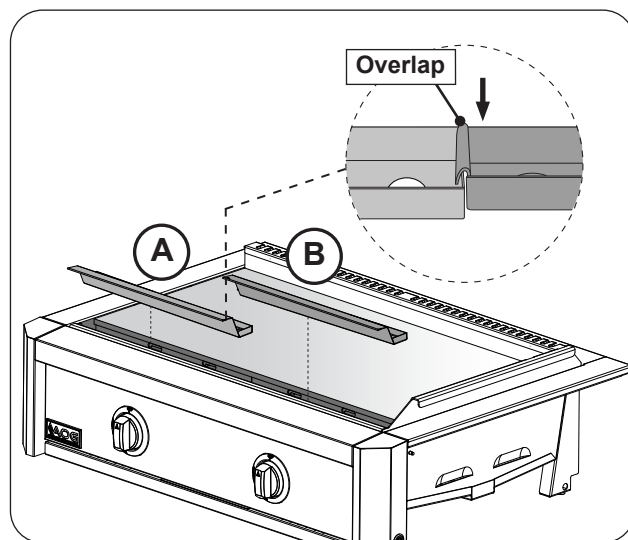

Fig. 31-1 Install drip collector trough
1. Place the left piece inside the griddle drip reservoir and completely slide it to the left side (see Fig. 31-1, A).
2. Place the right piece and ensure it overlaps the left tray as shown in Fig. 31-1, B.